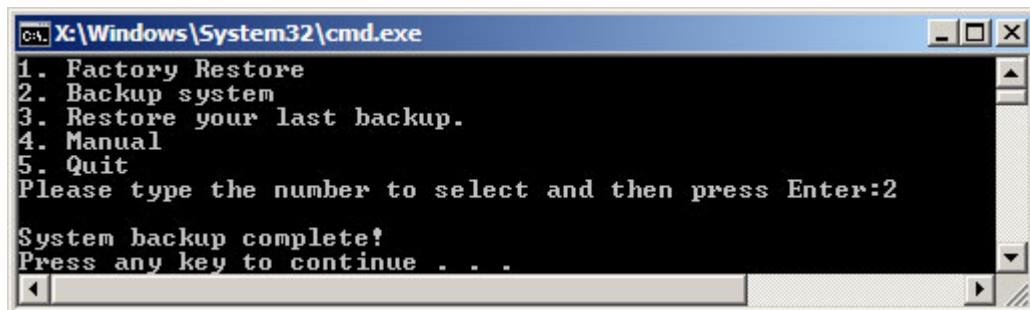

Figure B-30: System Backup Complete Window
Step 6: The screen is shown as in **Figure B-30** when system backup is completed.